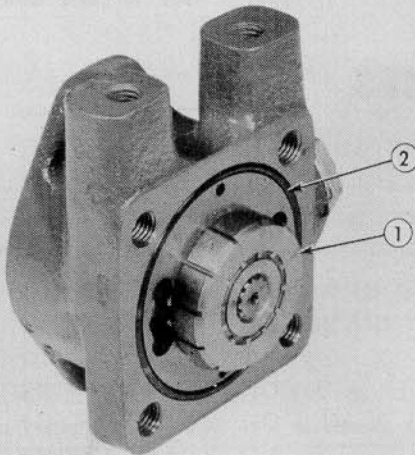

Fig. 31
Step 7—Remove the rotor (1—Fig. 31) being careful not to lose any of the vanes.
Step 8—Remove the "O" ring seal (2).